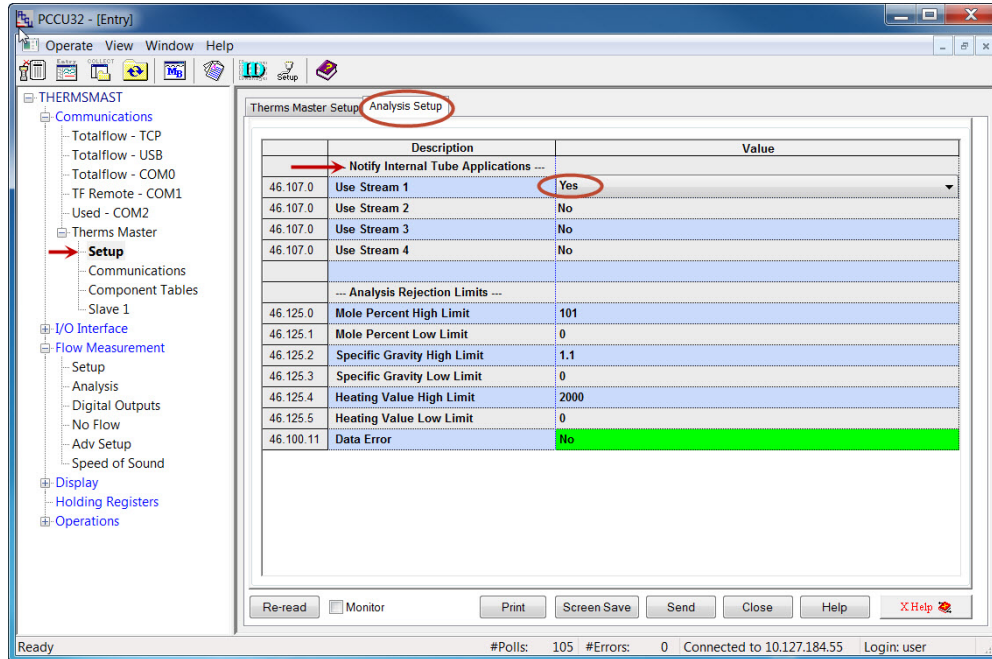

Figure 25. Therms Master analysis setup for internal tube applications
- 6) Under *Notify internal tube applications*, set the stream number associated with the measurement runs (tubes) handled by the Therms Master to yes. In our example stream 1 analysis data is used by both Master's tube 1 and 2 (see Figure 25).